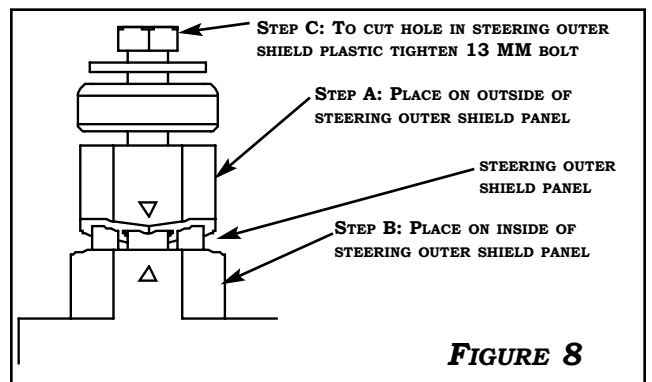

FIGURE 8
5. USING THE **SWITCH HOLE CUTTING TOOL, 250-2598**, PLACE THE LOCATER TABS INTO OE CRUISE SWITCH MOUNTING HOLES AND WITH 13MM SOCKET, TIGHTEN THE SCREW UNTIL PLASTIC HOLE IS CUT OUT. **FIGURES 8, 9 & 10.**
ENSURE THAT THE MARKS INDICATING THE TOP OF THE CUTTING TOOL ARE FACING UP; THE ANGLE ON THE TOOL SHOULD SILOUETTE THE CURVES OF THE STEERING SHROUD. **FIGURES 8, 9 & 10.**